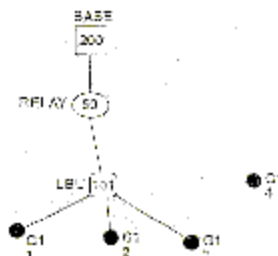

Figure 5
5. Once communication between your computer and the unit has been established, you must give the Grounding a Unit Code, or name on the network of other traffic counters and Base Stations. This number will be unique to this particular Grounding, and must not be used anywhere else in your system. Refer to Figure 5 for this address. You will then be asked to input the Destination Code. This address is also available in Figure 5, along with the Group Code and the System Code.